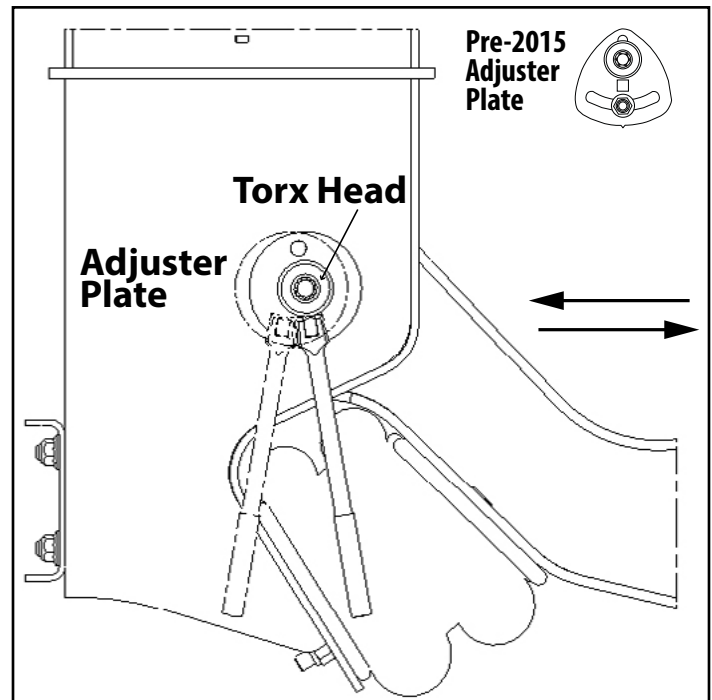

Figure 11.
2. Locate the adjuster plate at the pivot connection. Insert a 1/2"-shank breaker bar into the square hole of the adjuster plate. Push on the breaker bar to move the beam forward or backward until the axle reaches alignment measurements (Fig 11). NOTE: Check to make sure that the pivot bushing is not wedged sideways during beam movement. The adjuster plate and alignment washer should move in unison with the beam.